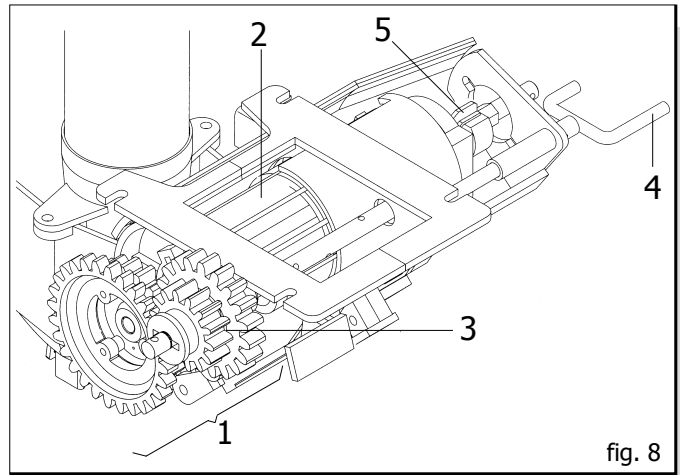
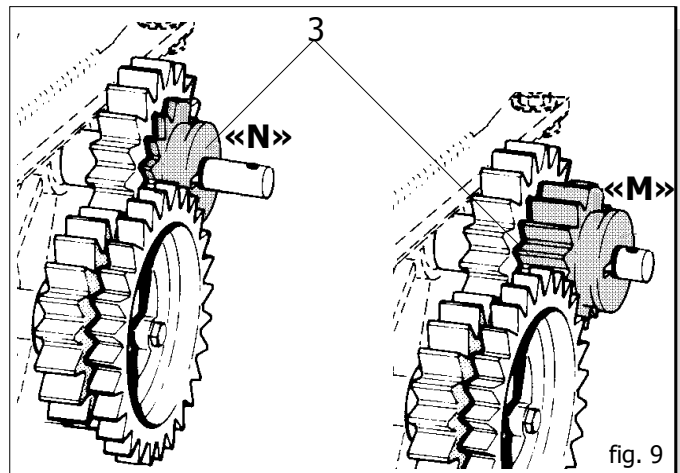

fig. 8
fig. 9
The doser (fig. 8) the most important part for seeder operation, is located underneath the seed hopper. Motive power is transmitted to it by the drive wheel through gears (with ratios proportional to the width of the work to be carried out) and chains. Thanks to a gearbox (1 fig. 8) it allows the distributor roller (2) to operate with two gear ratios, by changing the position of the red toothed wheel (3 fig. 9). In position «N», the gear ratio is 1:1, as imposed by the pair of toothed wheels Z19; when the wheel (3) is shifted to the «M» position, the distributor wheel halves the number of revolutions, as the drive is then composed of the red drive wheel Z14 and the drawn wheel Z28.
The locking spring (5 fig. 8) enables the opening range of the gate to be modified which, in turn, modifies the capacity of the dosing roller at the same time.